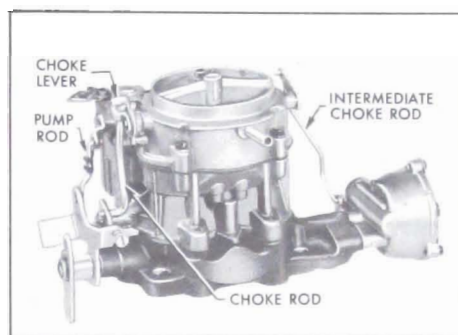

Figure 3-30—Exterior Linkage
12. Engage choke rod in choke lever and fast idle cam. Install fast idle cam screw and tighten securely. See Figure 3-30 for proper installation.